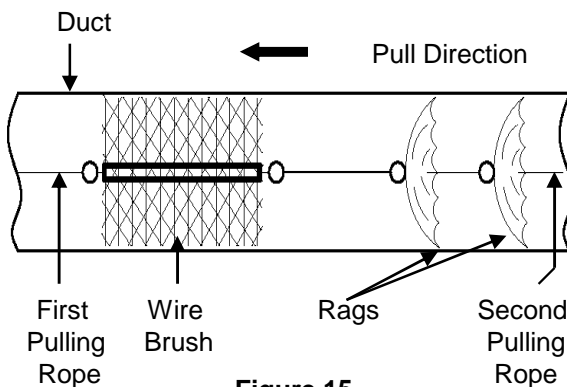

Figure 15
15.2.1 Attach a wire brush, rags and a second pulling rope to one end of previously installed pulling rope. Ensure cleaning apparatus and second pulling rope are securely attached to first pulling rope and won't come loose. **See Fig. 15.**